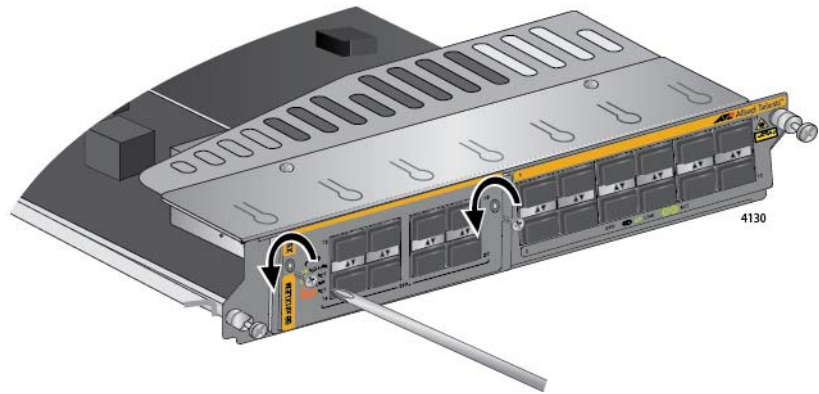

Figure 172. Removing the Screws from the Expansion Module
3. With a Phillips-head screwdriver, remove the two screws that secure the expansion module to the line card. Refer to Figure 172 on page 277.